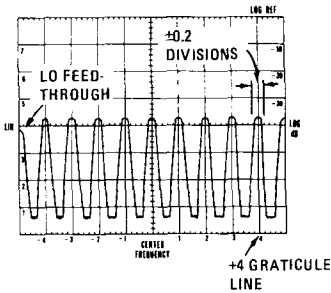

Figure 5-7. 47 MHz LO Adjustment Display
- 6. Using non-metallic tuning tool, slowly adjust 8552A A3A2C4 (see Assembly and Adjustment Locations photo in 8552A manual) until the LO feedthrough appears on the CRT (about ±1 turn); then adjust 8552A A3A2C4 until LO feedthrough is centered on far left graticule line (see Figure 5-7).